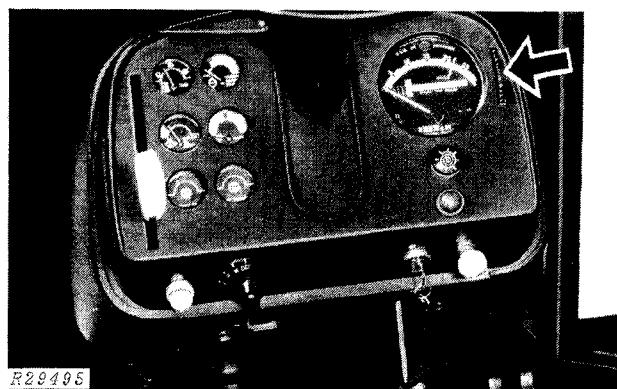

Fig. 36—Tachometer
14. Check engine idle speeds on tachometer (Fig. 36) Fast idle should be 2400 rpm and slow idle should be 800 rpm.